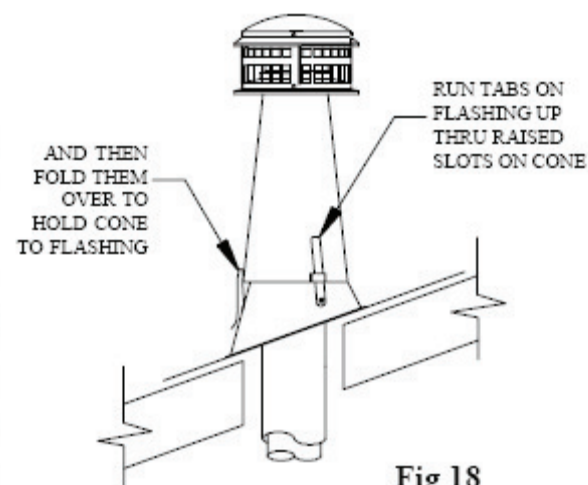

Fig 18
6. **Top Cone.** Slip the **Top Cone** over the **Flashing**, so the vertical straps on the **Flashing** coincide with the slots at the base of the **Cone**. Slip the straps up through the slots as shown in Figure 18. Adjust the **Top Cone** to a generally vertical position. Holding the **Top Cone** in position, bend the straps down as shown.